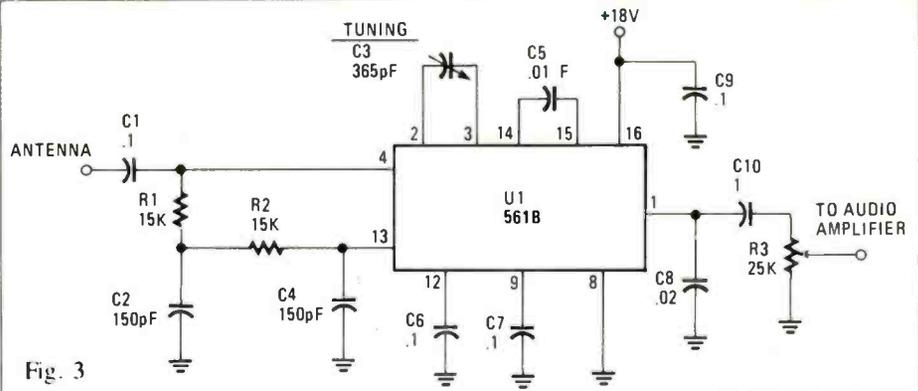

Fig. 3
K.S., of Waukesha, WI, writes to ask if there's such a thing as a phase-locked loop broadcast receiver. Actually, there is and while it took a bit of doing to find one, we were able to turn it up and it's a very interesting circuit indeed! Figure 3 shows the schematic diagram, and this simple AM circuit uses a 561B. You'll notice first of all, that there's no inductance/capaci-